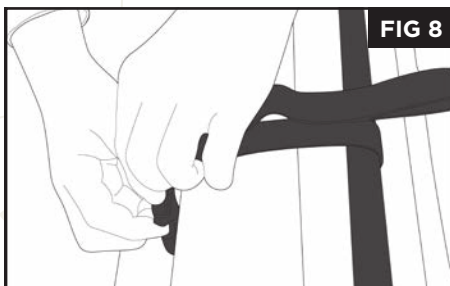

FIG 8
4. Use the straps behind the seat to secure the stern tube to the boat. DO NOT overtighten the straps as this may limit comfort and seat adjustability (**fig 8**).